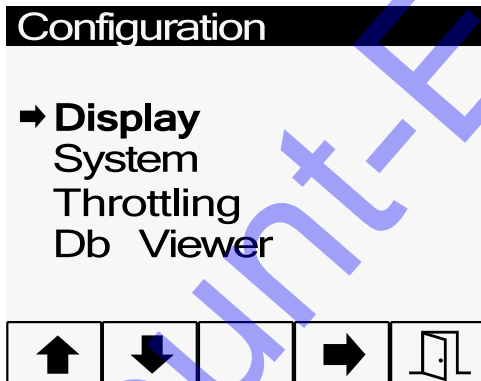

Figure 32. Configuration Menu
- To access the configuration menu (Figure 32), press and hold button 5 for at least 3 seconds from any display.